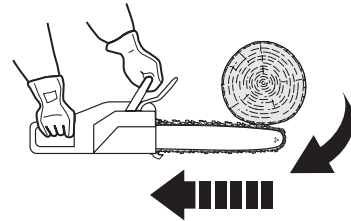

Fig. 25
2. Pinching the saw chain (12) along the top of the guide bar (13) may push the guide bar rapidly back toward the operator (Fig. 25).
5. Keep a good firm grip on the product with both hands, the right hand on the rear handle (1) and the left hand on the front handle (4), when the motor is running. Maintain a firm grip with your thumbs and fingers encircling the product handles (1, 4). A firm grip will help you reduce 'kickback' and maintain control of the product.